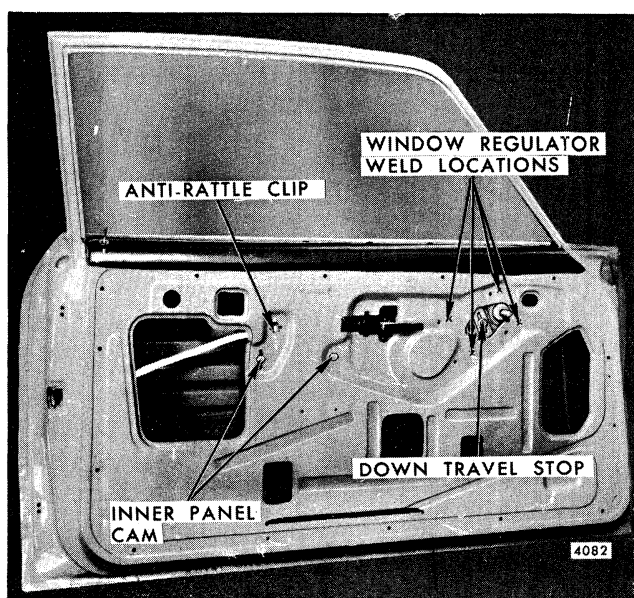

Fig. 5-121-Window Removal and Adjustment - Typical Door for "H" and "X" Styles
1. The inner panel cam (Fig. 5-121) is adjustable and can correct a rotated ("cocked") window assembly.
2. Window down-travel is determined by the position of the down-travel stop on "H" (less "07, 27") and "X" styles. "H-07 and 27" styles do not have an adjustable down stop. To adjust down-travel, loosen stop (Fig. 5-121 - "H" (less 07, 27) styles, Fig. 5-67 - "X" styles) and adjust glass to desired height at beltline. Position stop to contact glass ("X" styles) or regulator ("H" styles) and torque attaching screw to 60 to 90 inch-pounds.
2. Lower window to half-down position and remove inner panel cam (Fig. 5-121).
3. Center punch visible window regulator weld marks on door inner panel (refer to Fig. 5-121 for location). Using a spot weld cutter, tool J-8943-01 or equivalent, drill out each weld (Fig. 5- 123)..